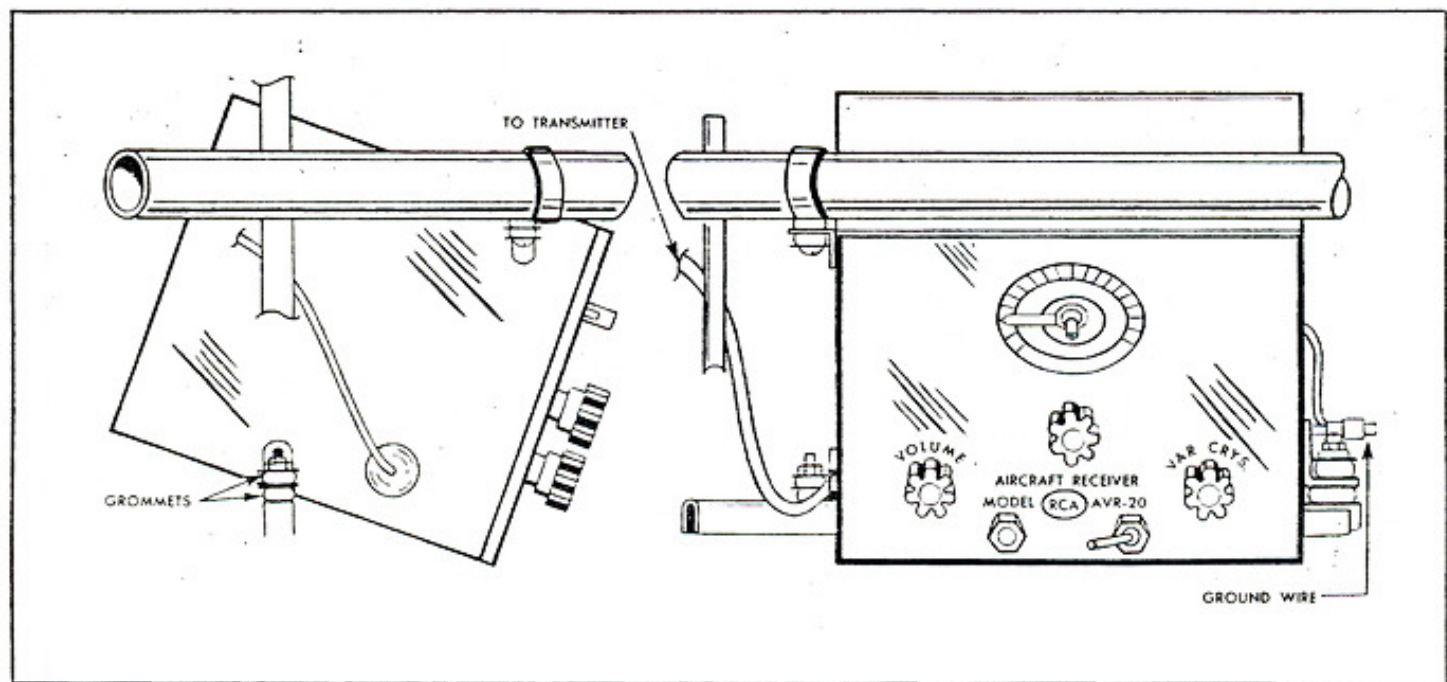

Figure 9—Receiver (L-4A)
(2) RECEIVER (L-4A). (See figure 9.)